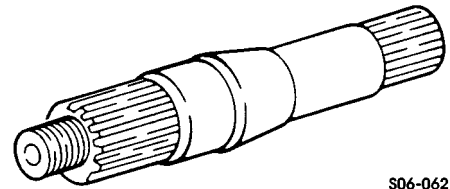
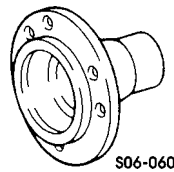

Figure 9-75: Output Shaft
Figure 9-73: Output Flange
3. Inspect splines and sealing surfaces on output flanges, pinion yoke, and output shaft for damage (Figure 9-73) through (Figure 9-75).